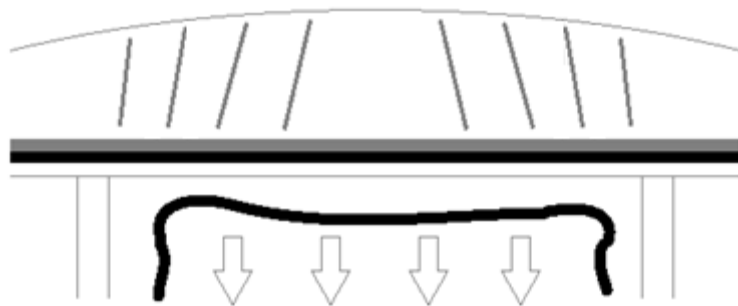

Fig118
- **STEP 1:** At one end of the polytunnel, trap the polythene tight up to the rebate with a pre-nailed batten in the centre of the lintel for approximately 12 inch either side of centre – The polythene should be smooth along this 2ft length with no creases (**Fig118**).